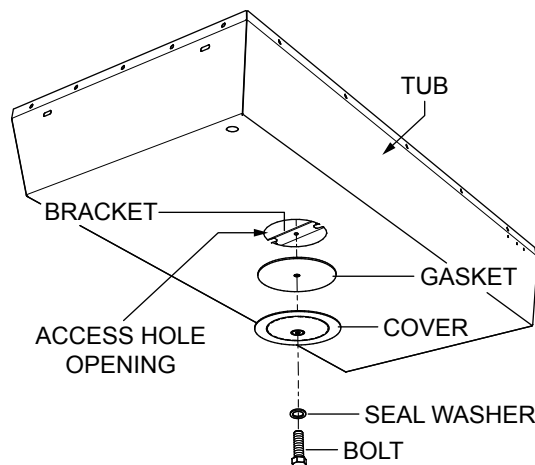

Figure 29. Tub Access Cover Removal
2. To drain the engine oil the tub access cover (Figure 29) must be removed.